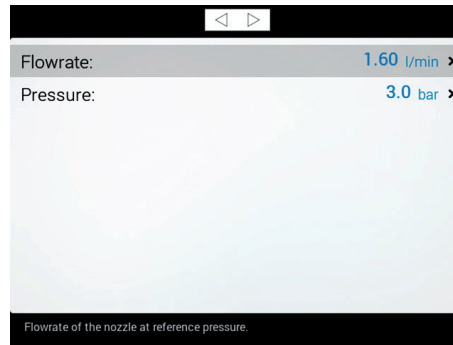

Fig. 71
- Enter the relevant features (Fig. 71).